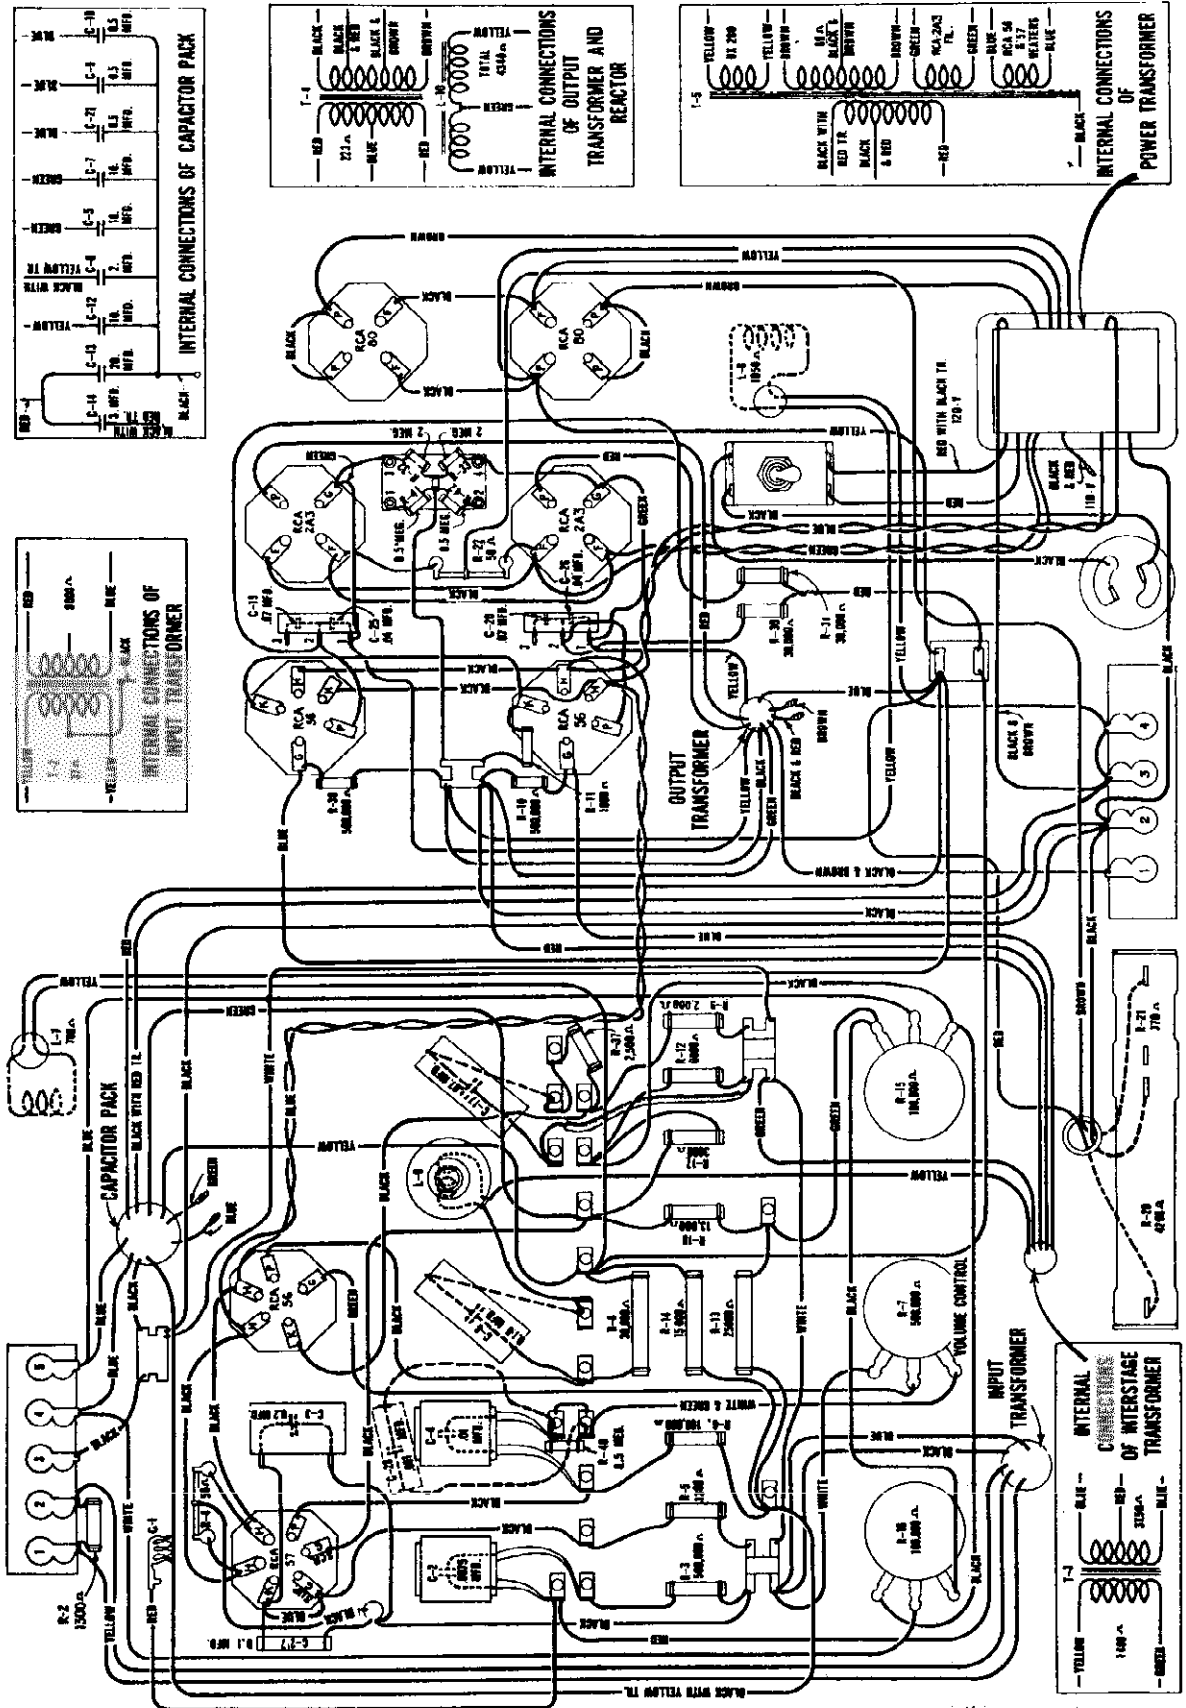

Figure 2—Amplifier Panel Wiring (PB82C1)—Connected for use with 27 inch baffles
To modify the frequency response characteristic, proceed as follows: See Figure 2.
All the controls except the power control switch are mounted on the voltage amplifier base and are easily accessible to the operator. The controls consist of the power control switch mounted on the power amplifier base, the microphone volume control, amplifier volume control, the speech clarifying switch and the tone switch. Figure 2 shows the location of the various controls.
- (a) That all Radiotrons are in their proper sockets and pressed down firmly. Never apply power to the instrument unless all Radiotrons are in place. See Figure 2.